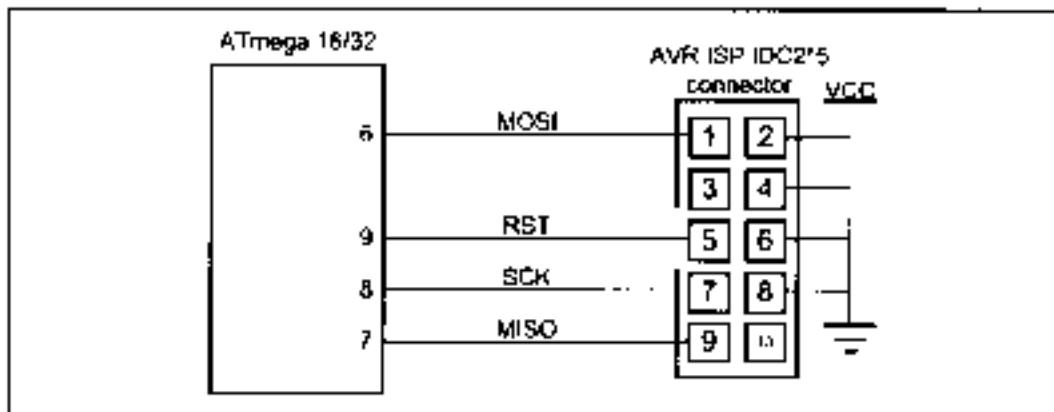

Figure 8-11. ISP 10-pin Connections (See www.atmel.com for 6-pin version)
2. An **in-circuit serial programmer (ISP)** allows the developer to program and debug their microcontroller while it is in the system. This is done by a few wires with a system setup to accept this configuration. In-circuit serial programming is excellent for designs that change or require periodic updating. AVR has two methods of ISP. They are SPI and JTAG. Most of the ATmega family supports both methods. The SPI uses 3 pins, one for send, one for receive, and one for clock. These pins can be used as I/O after the device is programmed. The designer must make sure that these pins do not conflict with the programmer. Notice that SPI stands for "serial peripheral interface" and is a protocol. But ISP stands for "in-circuit serial programming" and is a method of code loading. AVRISP and many other devices support ISP. To connect AVRISP to your device you also need to connect VCC, GND, and RESET pins. You must bring the pins to a header on the board so that the programmer can connect to it. Figure 8-11 shows the pin connections.